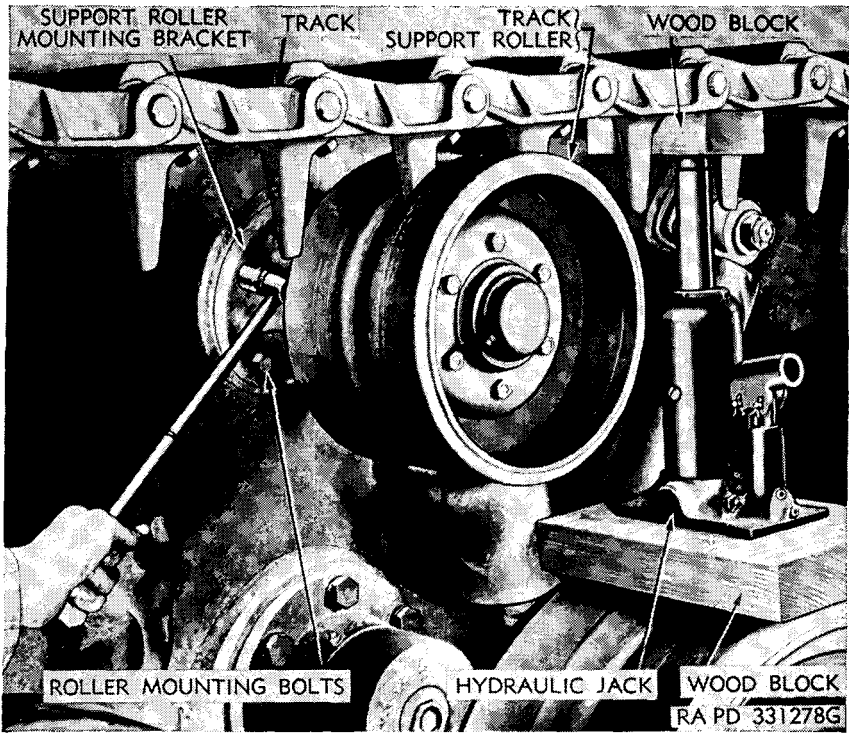

Figure 151. Removing track support roller.
a. REMOVAL. Place block of wood on track wheel nearest roller to be removed. Set jack on wood block and raise track until it clears roller (fig. 151). Remove five bolts that hold roller mounting bracket to hull side wall and remove roller.
- (1) *Removal.* Remove track support roller as outlined in *a* above. Remove four screws that hold hub cap to wheel hub, remove cap, and discard gasket. Remove cotter pin and nut that hold bearings on roller spindle. Pull out on roller to move outer bearing and keyed washer out of roller hub. Remove outer bearing and washer. Lift roller and hub assembly off mounting bracket spindle. Remove inner bearing and grease retainer. Pry grease seal off bearing spacer and discard.